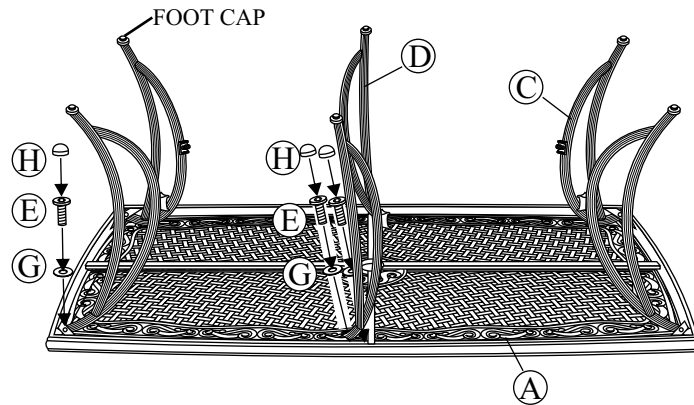

Fig.1
- 1 Place the table top upside down on a flat, non-abrasive surface. Attach a side leg to the table top by using a 1/4"x20 mm bolt and a washer as shown in the Fig.1. Place the leg beneath the table rim corner bracket. Guide the bolt through the hole in the table rim corner bracket and into the pre-drilled hole in the side leg. Hand tighten only. **Do not tighten completely.** Some adjustments may be necessary to ensure proper alignment of the table legs. Repeat for the other three side legs. Attach the middle leg using the 1/4"x20 mm bolts and washers as shown in the Fig.1. Hand tighten only. **Do not tighten completely.** Repeat for the other middle leg.
**1** **Important: We recommend 2 people work together to assemble the chair.** Note the arrow labels on the "U" bar and the rocker assembly. Also note the horseshoe shape of the rocker plate. Point the open end of the horseshoe away from you. The arrows on the rocker assembly should be pointing towards you. Set the chair frame on the rocker assembly with front of the seat facing you and the arrows on the "U" bar pointing towards you as shown in *Figure 1*. This is very important for a safe, balanced rocking motion. **If chair frame has been properly positioned on the rocker assembly, all arrows on the "U" bar and rocker assembly will be pointing in the same direction.**